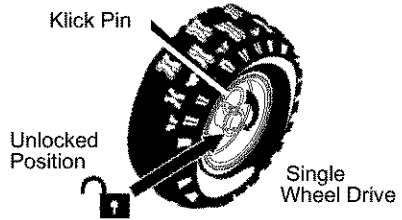

Figure 17
2. For ease of maneuverability in light snow conditions, disconnect the **klick pin** from the wheel **locked position** and push into the single wheel drive position (**unlocked axle hole only**). See Figure 17.